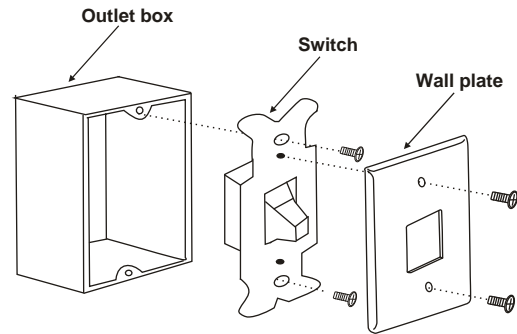

Fig. 1
- Disconnect the power and remove the existing wall plate and switch. (Fig. 1)